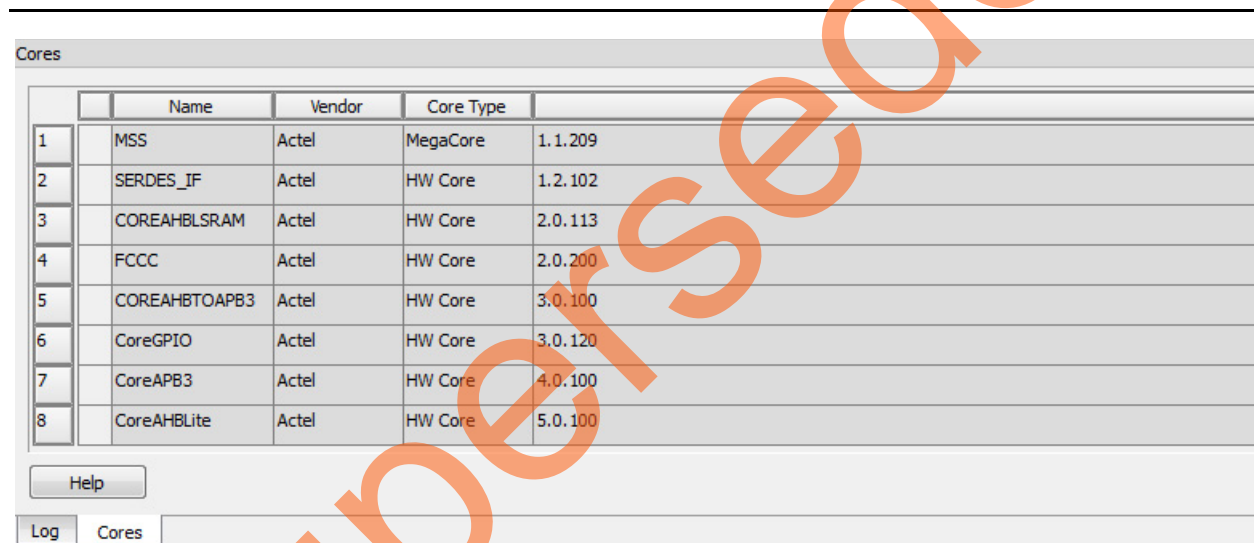

Figure 35 • Cores Window
36. The Core usage table is displayed in the Libero SoC **Cores** window. Figure 35 shows the **Cores** window that is displayed on successful component generation.